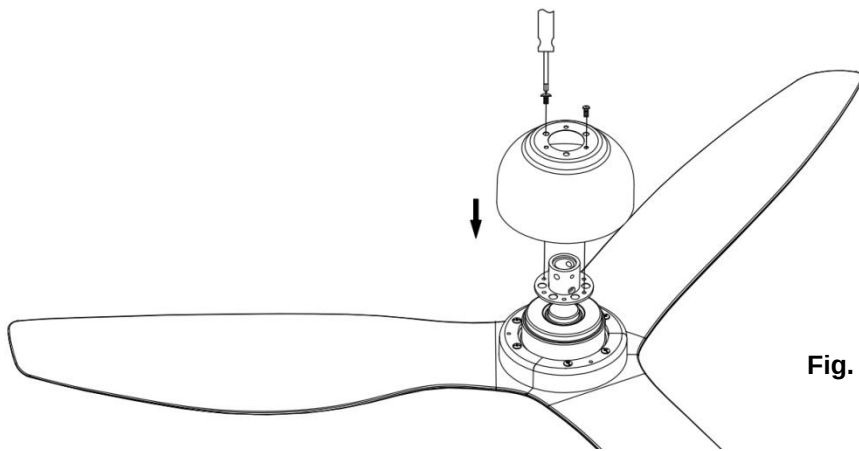

Fig. 7
NOTE: Do not discard but keep the screws, they are required to reassemble later. (Fig. 7,9)
5. Secure the motor housing onto the down rod coupling housing with screws. (Fig. 7)